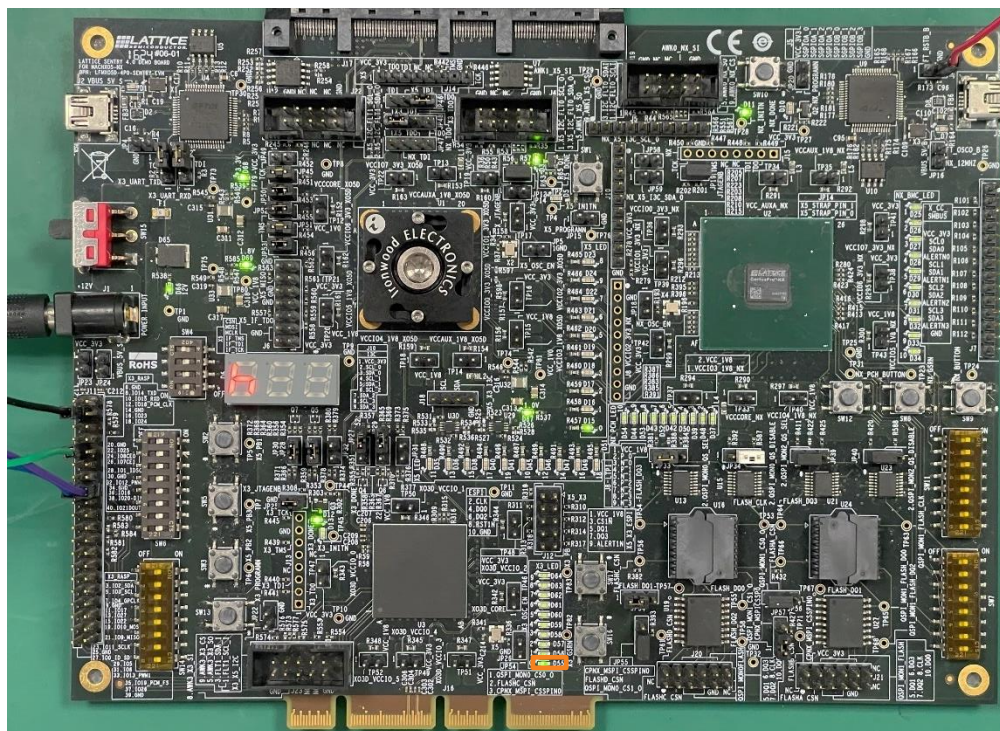

Figure 6.15. D55 LED Blink
4. Wait until LED D55 blinks (Figure 6.15). Then, enter 2 in the Menu to select the M-PESTI demonstration and hit Enter.